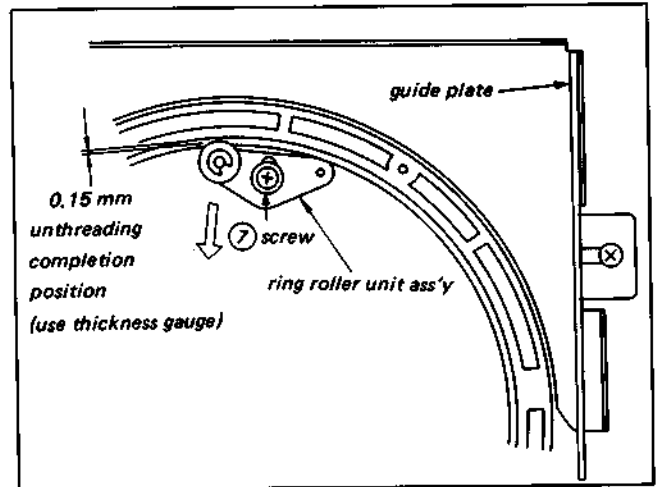

Fig. 3-22. Replacement and adjustment of threading ring ass'y
- 3) Loosen the ring roller unit assembly screw ⑦. (See Fig. 3-22)
- (v) Ring roller unit adjustment (See Fig. 3-22)